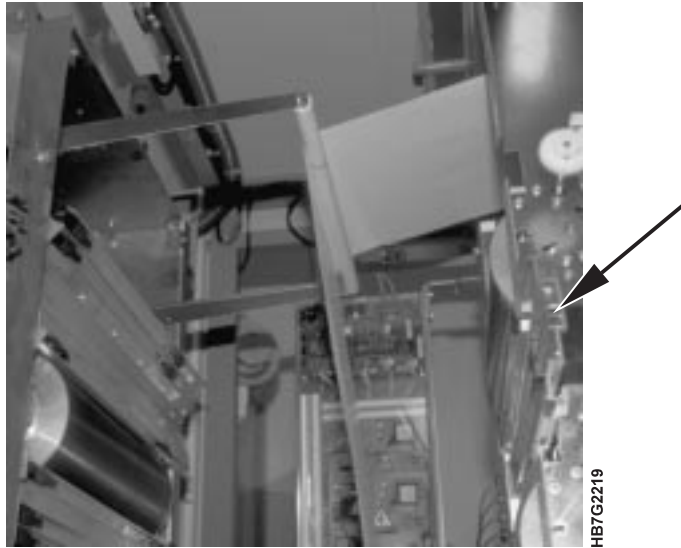

Figure 333. TED Corona Assemblies
- 9** Locate the transfer erase duplex (TED) corona assembly, as shown in Figure 333 on page 377. Each tower has four TED corona assemblies.